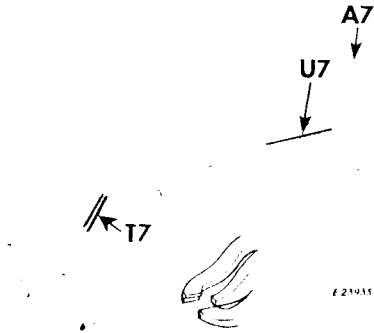
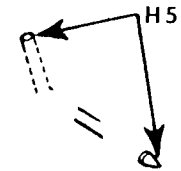

Fig. 37. Machine 175-63 with Clamp 175842 for Sewing Snap Fasteners (Inset Shows Clamp 175847)
Fig. 38. Clamp Arm Hinge Pin
**Fig. 37** shows Machine 175-63 equipped for sewing snap fasteners in sizes 000 small, 00 medium and 0 large. For this purpose,
To remove snap holder **T7**, **Fig. 37**, first withdraw hinge pin **H5**, **Fig. 38**. Then remove clamp arm **A7**, **Fig. 37**, with clamp and snap holder attached thereto.
**NOTE**—The screw, for fastening snap holder to the clamp, is not shown. However, its position beneath the clamp is indicated in **Fig. 37**, by **U7**.
Snap Fastener Clamp **175847**, (Button Clamp Type) is shown, in part, in inset at lower right corner of **Fig. 37**, above.